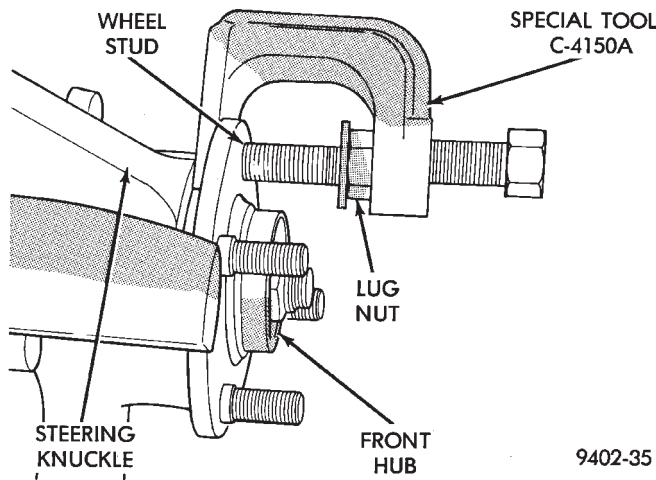

Fig. 67 Removing Wheel Stud From Hub And Bearing
(7) Install a lug nut on wheel stud to be removed from hub and bearing assembly, (Fig. 67) so threads on stud are even with end of lug nut. Rotate hub so stud requiring removal is aligned with notch cast into front of steering knuckle. Install Remover, Special Tool C-4150 on hub and bearing assembly flange and wheel stud (Fig. 67).
(8) Tighten down on special tool, this will push the wheel stud out of the hub and bearing flange.